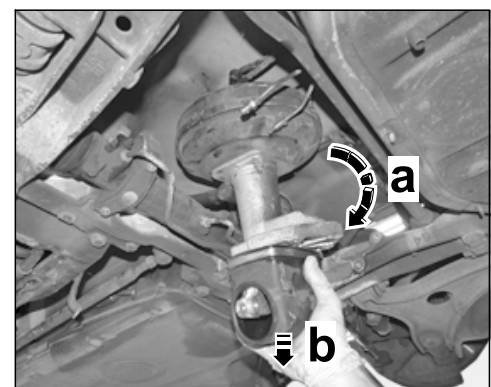

Figure 12
3.2.5 Swivel mounting saddle with brake booster downwards ⇒ *Figure 12-a-* and remove it ⇒ *Figure 12-b-*.